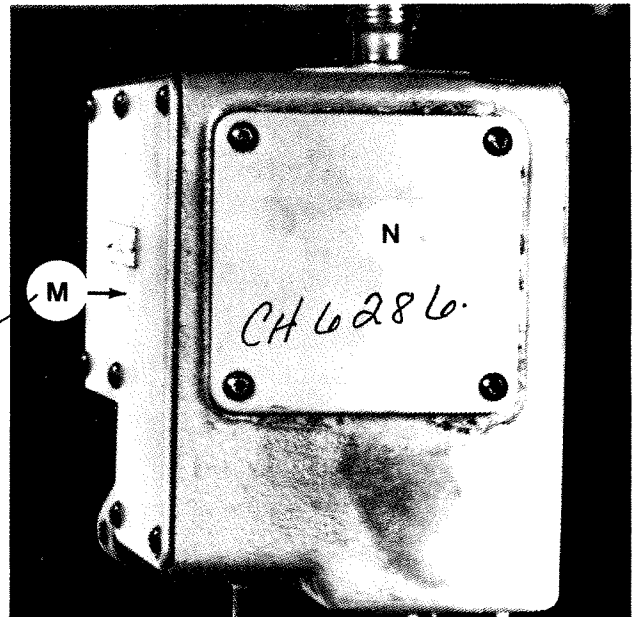

Figure 3.14 - Drive Housing Covers
4. Remove covers "M" and "N", Figure 3.14 .
17. Replace covers "M" and "N", Figure 3.14 .